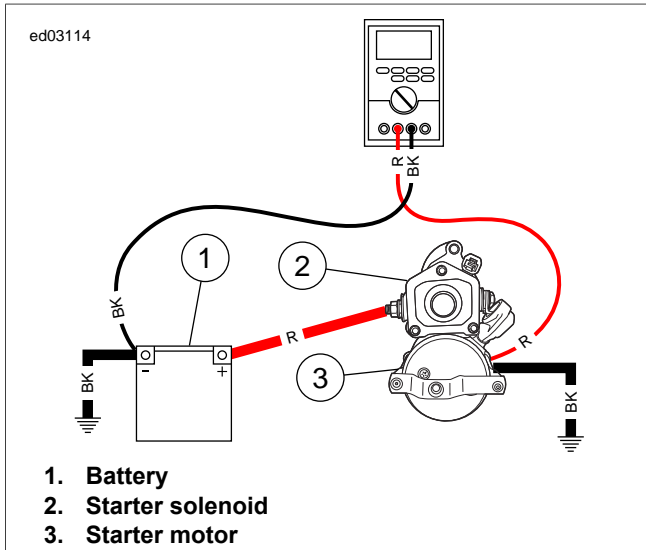

Figure 1-15. Starter Ground Circuit
3. See Figure 1-15. Finally move black meter lead to negative battery post and red meter lead to starter case. Crank starter. Observe voltage drop.